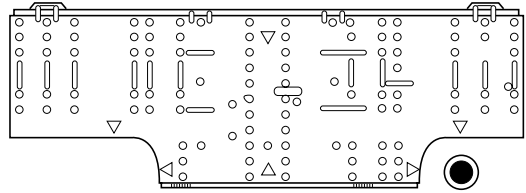

Fig. 3-61
- (1) Attach the rear panel to the wall with the 10 screws provided. (Fig. 3-61)